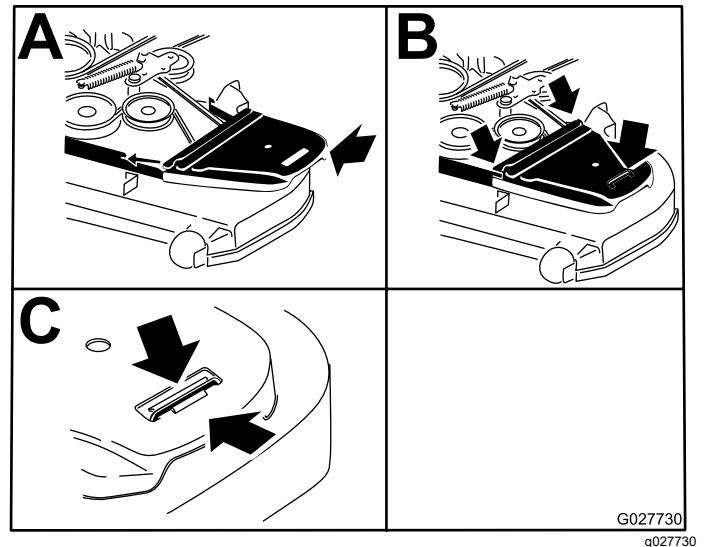

Figure 66
12. Install the belt covers (Figure 66).